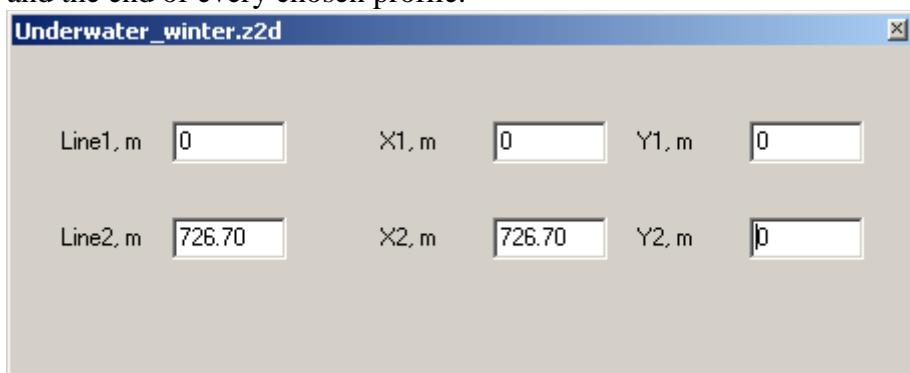

Fig. 21 Dialog of coordinates setting for 2D profiles.
**Collect from 2D** – assembles data of several profiles over the area. Usually 2D data has only X horizontal coordinate and after choosing this option for every profile, the coordinate setting dialog will become available (fig. 21). There it is necessary to set coordinates of the beginning and the end of every chosen profile.